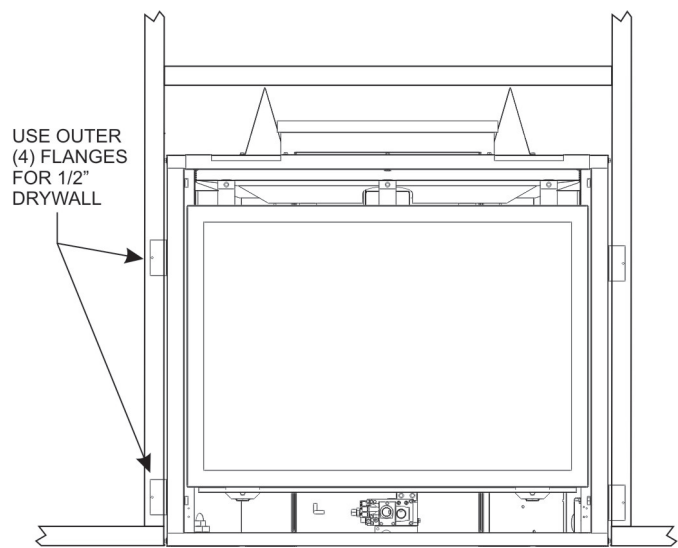

Figure 9A
NOTICE: Fireplace must mount flush to facing material. If facing material requires more depth than 3/4" mark and drill two (2) 1/8" holes into fireplace side at appropriate depth. Bend standoff tabs as needed to move fireplace flush with facing material. See **Figures 9A and 9B.**
4. Use (8) 1/2" hex-head screws supplied in hardware package, to screw through slotted holes in drywall strip and then screw into pre-drilled holes on fireplace side. Measure from face of fireplace to face of drywall strip to determine final depth.